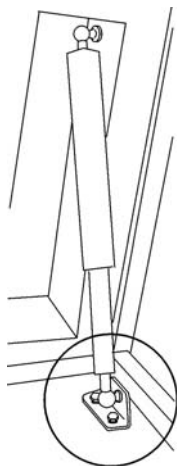

Figure 4-2.
3. At the bottom of the door stop, where it attaches to the door bracket, is a retaining clip which must be removed (Figure 4-2).